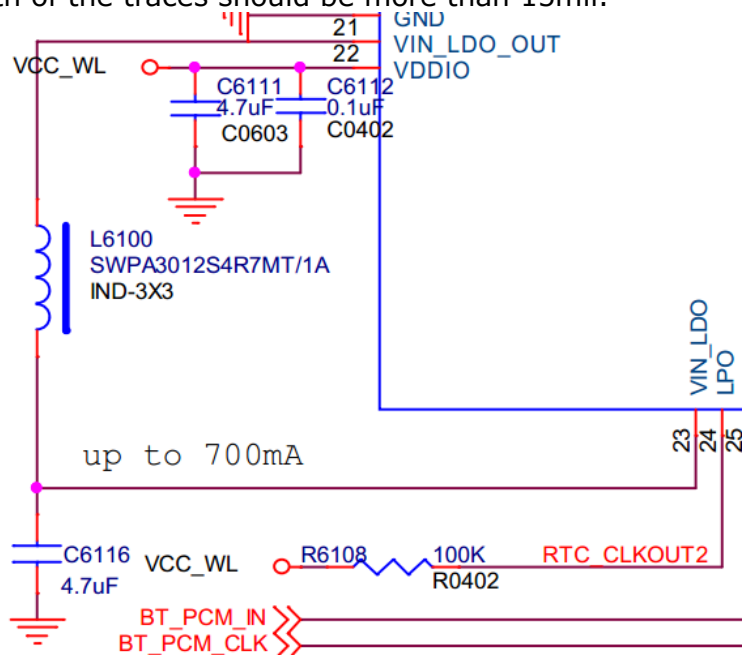
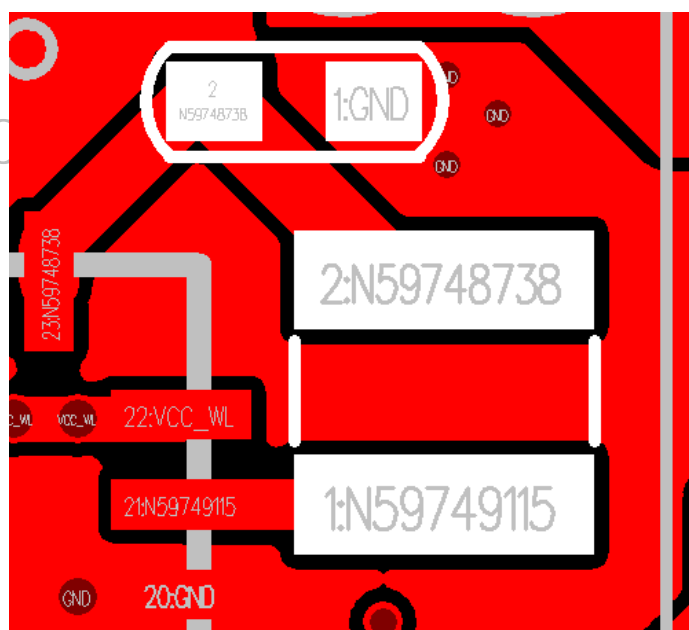

Figure 23-9
Figure 23-10
- Shown as Figure 23-9, Figure 23-10, the inductance L6100 of internal power supply in the module and the capacitor C6116 should be placed close to the module, and the width of the traces should be more than 15mil.